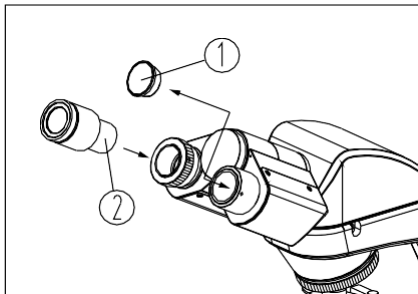

Fig.4
1. Move the plastic cover of eyepiece tube (1).
2. Insert the eyepieces (2) into the eyepiece tube, until it touches the bottom (See Fig. 4).